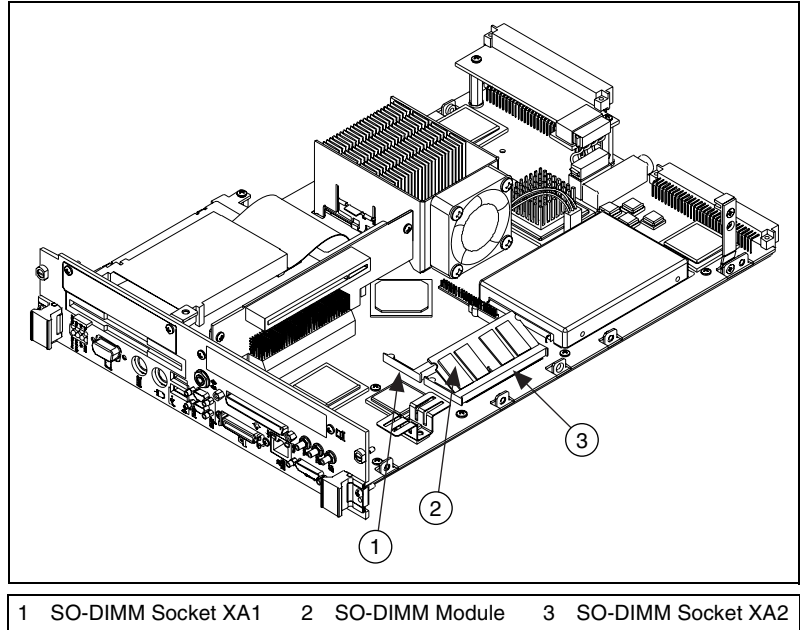

Figure 2-2. Installing a SO-DIMM in an VXIpc 770/870B Series Controller
3. Add the SO-DIMM modules to the empty SO-DIMM sockets. Refer to Figure 2-2.